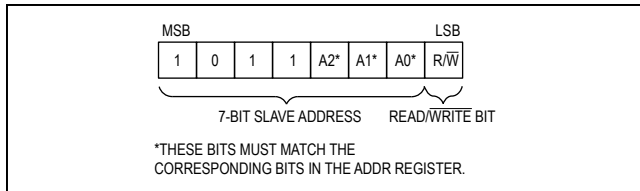

Figure 4. Slave Address Byte
The 2-wire serial interface is used to read and write the control registers of the DS1094L. The default slave address of the DS1094L is B0h (see Figure 4). Using the 3 address bits (A2, A1, and A0) in the ADDR register, the slave address can be changed to allow as many as eight DS1094Ls reside on the same 2-wire bus or to simply prevent address conflicts with other 2-wire devices. The location of the address bits within the ADDR register is shown in the *Control Registers* section. A detailed description of the 2-wire interface is found in the *2-Wire Serial Interface Description* section.
**Slave Address Byte:** The slave address byte consists of a 7-bit slave address followed by the  $R/\bar{W}$  bit (see Figure 4). The slave address is the most significant 7 bits and the  $R/\bar{W}$  bit is the least significant bit. The 3 address bits in the slave address ( $A_2$  to  $A_0$ ) permit a maximum of eight DS1094Ls to share the same 2-wire bus.